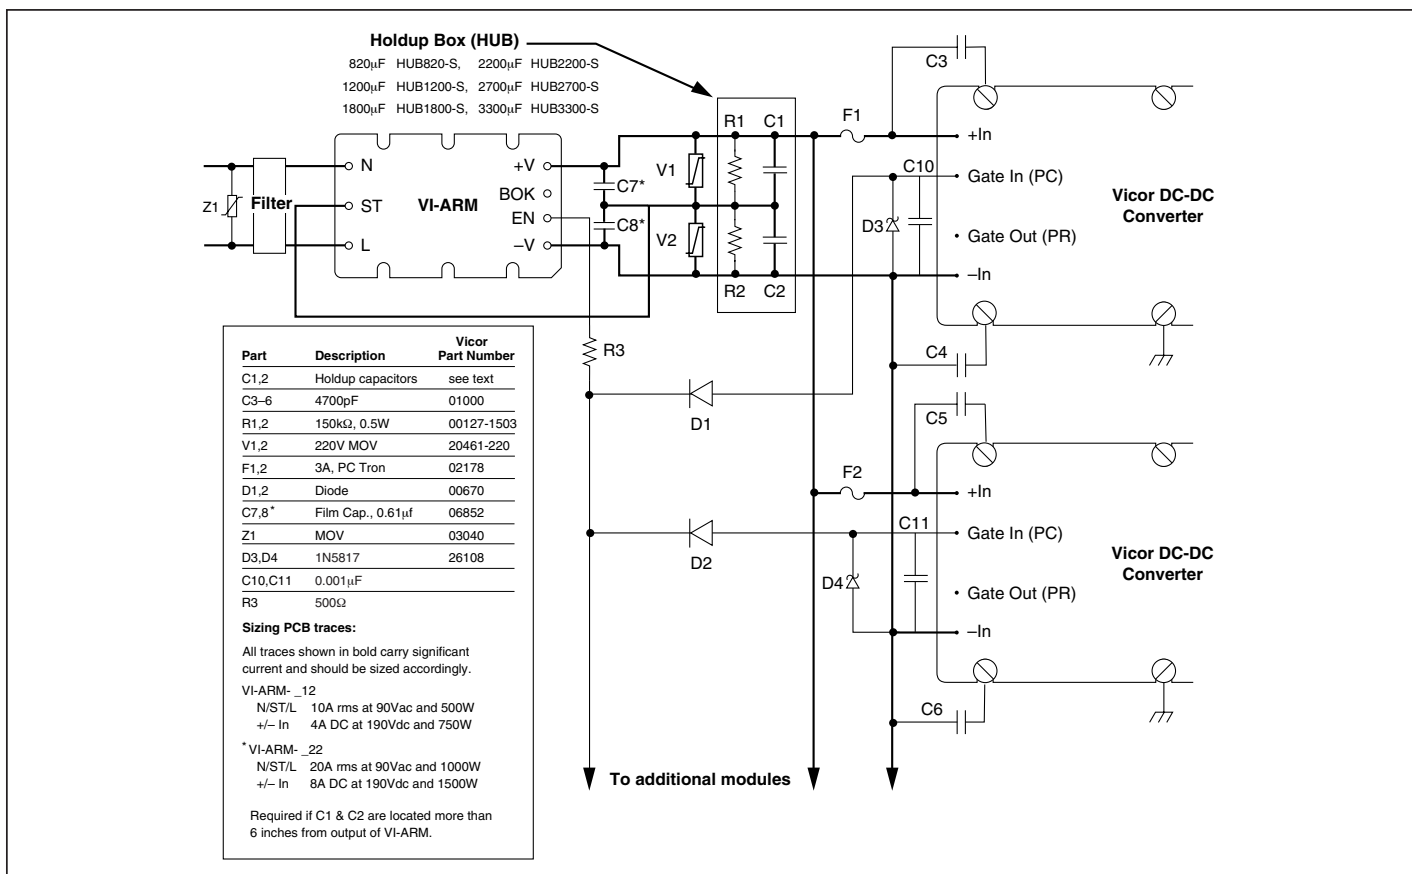

Figure 8—Converter connections
Strap (ST) Pin. In addition to input and output power pin connections, it is necessary to connect the Strap pin to the junction of the series holdup capacitors (C1, C2, Fig. 8) for proper (autoranging) operation. Varistors across the capacitors provide input transient protection. The bleeder resistors (R1, R2, Fig. 8) discharge the holdup capacitors when power is switched off.
It should be noted that the series combination ($C1$, $C2$, Fig. 8) requires each capacitor to be twice the calculated value, but the required voltage rating is reduced to 200V.